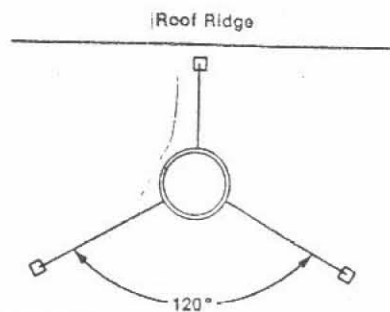

Figure 37
Note: If chimney extends more than 6 feet above roof line, guy wires are also recommended. Use three (3) guy wires, attach to locking band assembly, extend and secure to roof in a triangular pattern (Figure 37). Guy wires not supplied by Superior.